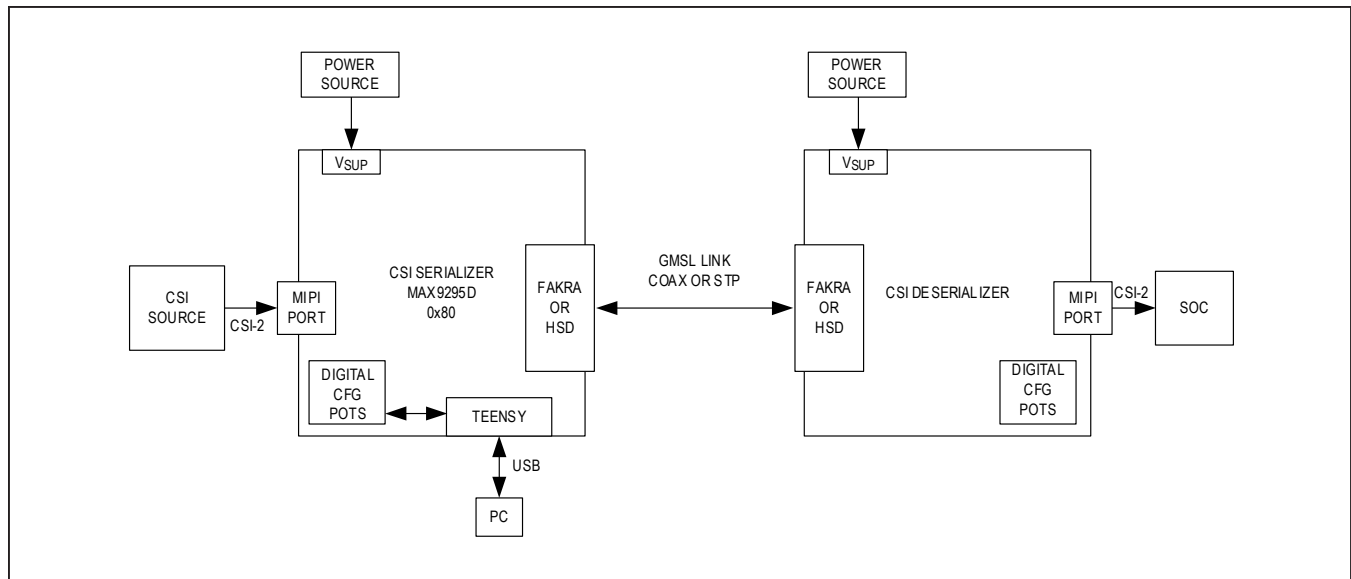

Figure 4. Typical Application Block Diagram Using MAX9295D Coax/HSD EV Kit
This procedure applies to both the coax and HSD evaluation kits. Figure 4 shows a typical application using the MAX9295D CSI serializer.
- 7) Connect the serializer-deserializer EV kit system as shown in Figure 4. Connect the FAKRA cable from